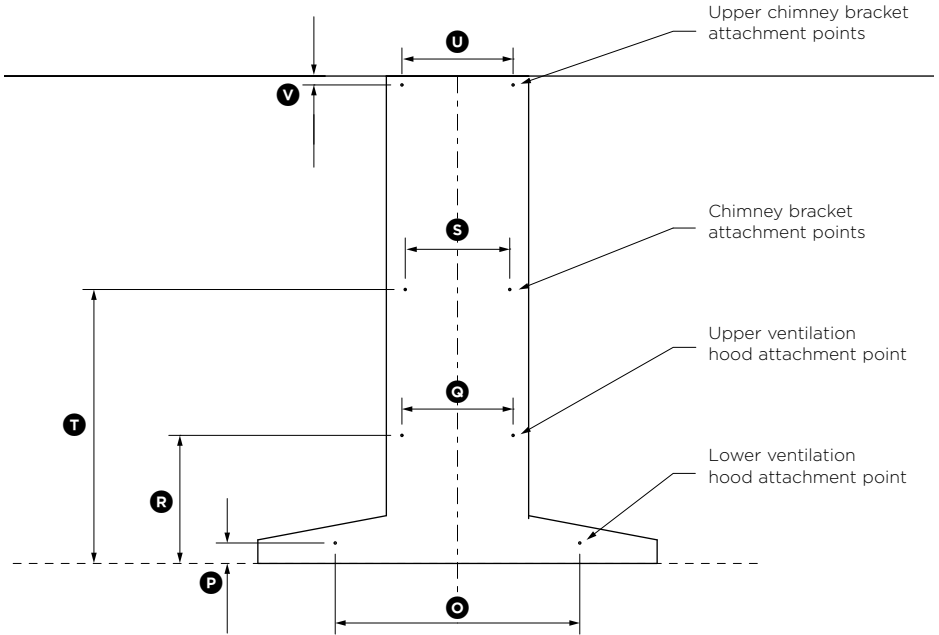

Fig.2
- Ensure the voltage (V) and the frequency (Hz) indicated on the serial plate match the voltage and frequency of the installation site.
② Attach chimney brackets and ventilation hood mounting screws to the wall
- Attach the chimney bracket and upper chimney bracket (if using the upper chimney) in the locations shown in Fig.2 (refer to page 13) and Fig.3 (refer to page 14). Use the $1\frac{3}{16}$ " (30 mm) screws (and expansion plugs if attaching to masonry).
- Attach the upper ventilation hood mounting screws in the locations shown in Fig.2 (refer to page 13) and Fig.3 (refer to page 14). Using the $1\frac{3}{16}$ " (30 mm) screws (and expansion plugs if attaching to masonry). Ensure that there is a $\frac{1}{16}$ " (2 mm) gap between the screw head and the wall (Fig.1).